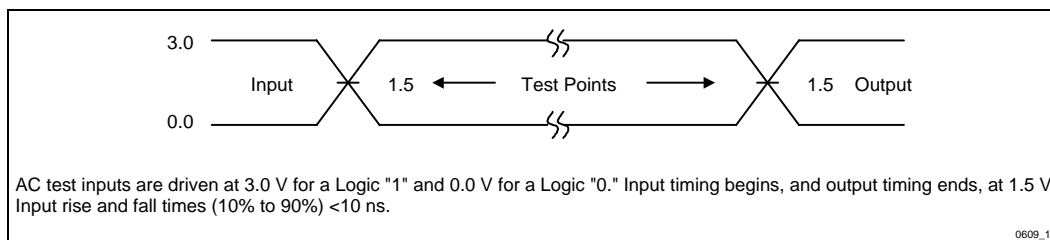

Figure 13. Transient Input/Output Reference Waveform for $V_{CC} = 5.0 \text{ V} \pm 5\%$ (High Speed Testing Configuration)
5. See Figures 13 through 15 for testing characteristics.
6. See Figures 13 through 15 for testing characteristics.